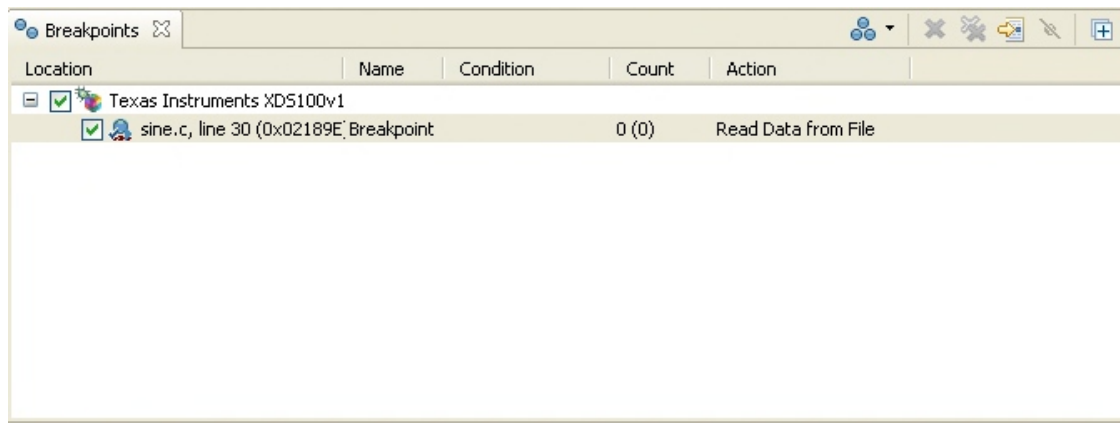

Figure 1: Debug window demonstrating use of File I/O to read data file.
- From the **Actions** column select **Read data from file**. A **Parameters** window will open. See Fig. 1